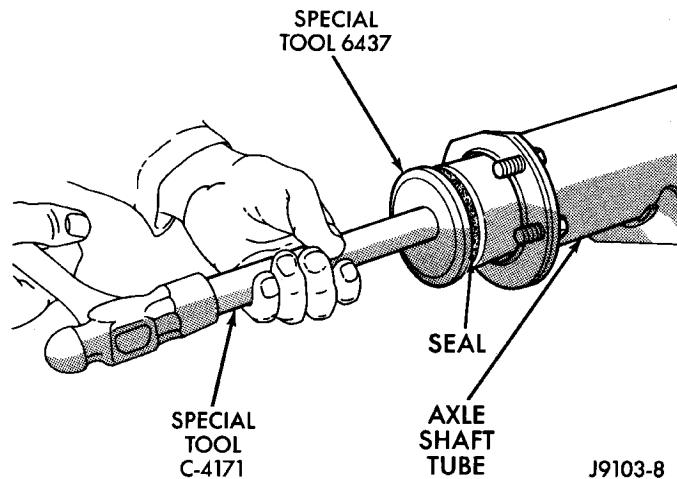

Fig. 26 Axle Shaft Seal Installation
- (1) Wipe the bore in the axle shaft tube clean.
- (2) Install axle shaft bearing with Installer 6436 and Handle C-4171. Ensure part number on the bearing is against the installer.
- (3) Install the new axle shaft seal (Fig. 26) with Installer 6437 and Handle C-4171.
- (4) Install the axle shaft.